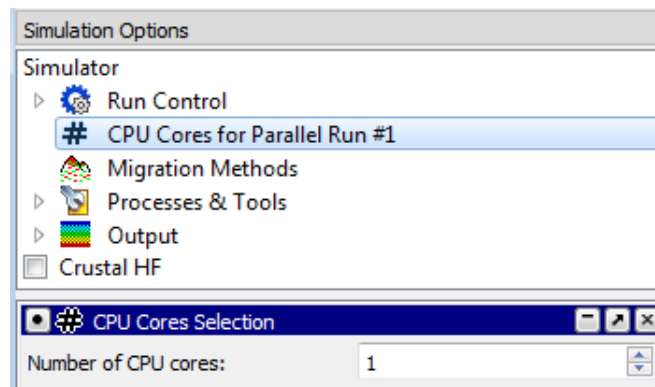

Fig. 3-7 Activating parallel processing in the PetroMod Simulation Interface
- 1 After the licenses have been activated open the **PetroMod Simulation Interface** and select **Processors for Parallel Run**, see Fig. 3-7.